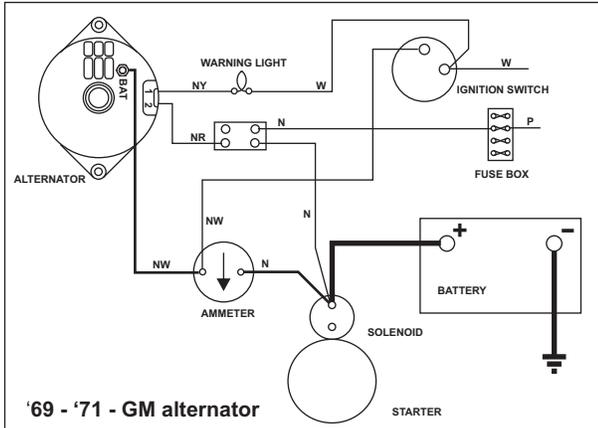

FIGURE 7
FIVE WIRE MODIFICATIONS: Refer to **figures 7** and **8**, next page, Discard the short Brown/Yellow wire, as above. Cut off the terminals from the remaining Brown/Yellow wire, and from both the Brown/White, and the Brown/Red (Brown for '72) wires. Connect the Brown/Yellow wire to the lead coming from position (1) of the plug and Connect the small Brown/Red (Brown for '72) wire to the other terminal, (2). Connect the large Brown/White wire to the screw terminal. Insert the plug,